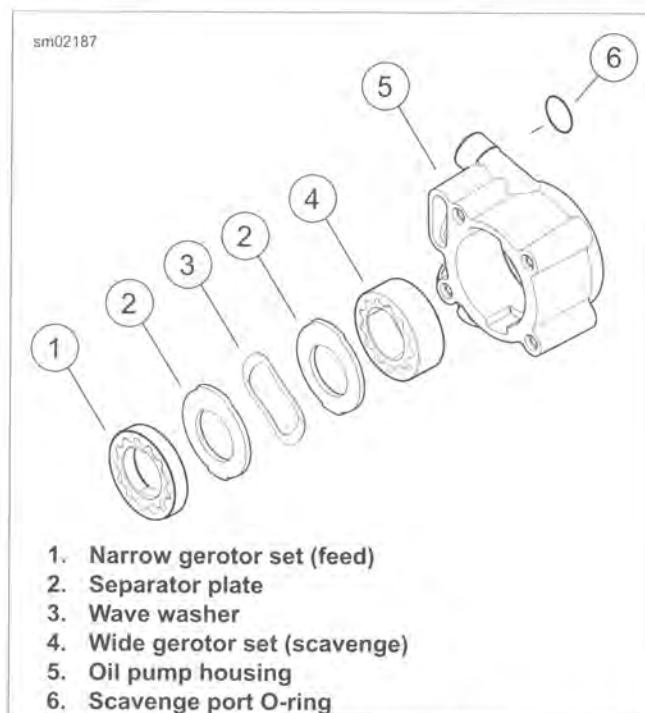

Figure 3-115. Assembling Oil Pump
5. See Figure 3-115. Disassemble and inspect oil pump components.